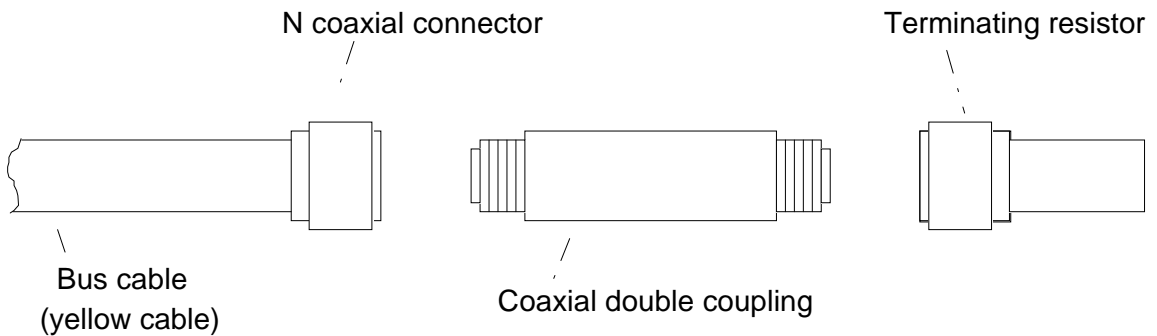

Fig. 2.6: N Coaxial Connector, Coaxial Double Coupling and Terminating Resistor
- To connect a terminating resistor to the end of the bus cable using a coaxial double coupling (see Fig. 2.6).
If the bus cable is terminated at both ends by a transceiver, the terminating resistors are screwed on to the transceivers otherwise they are connected using the coaxial double coupling as shown in Fig. 2.6.